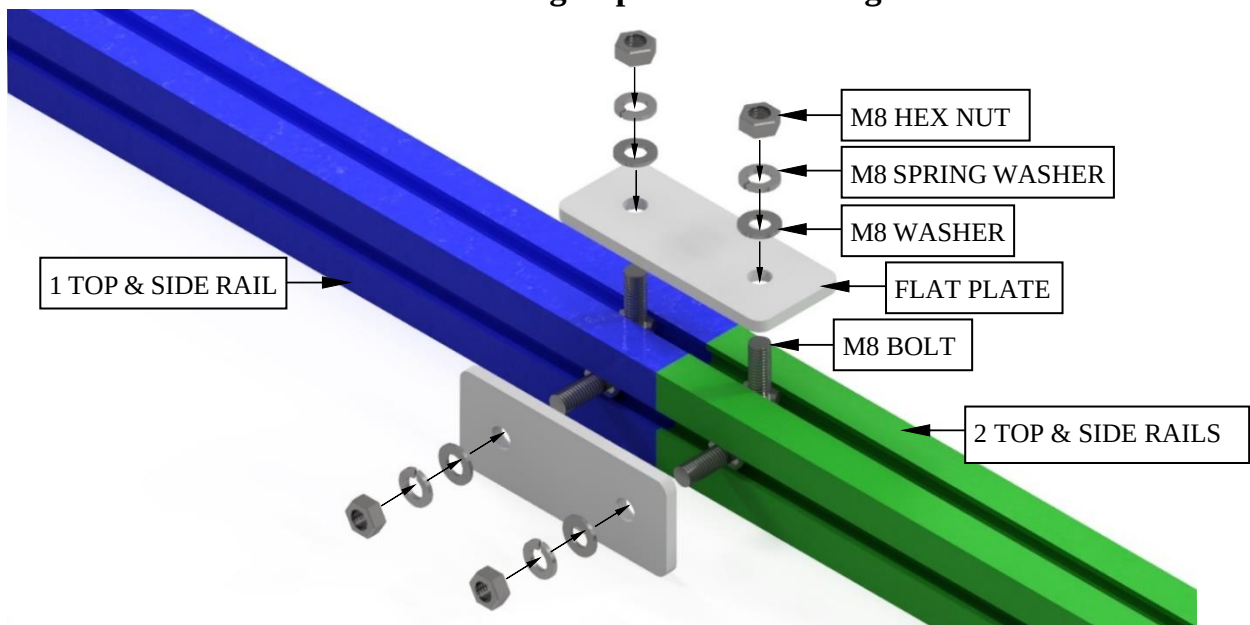

Figure 14: Flat Plate to Top & Side Rail Fixing
- To connect two Top & Side rails, tighten a flat plate at 15 Nm torque in the configuration as seen in Figure 14. Ensure that the two rails are correctly aligned before tightening the nuts.